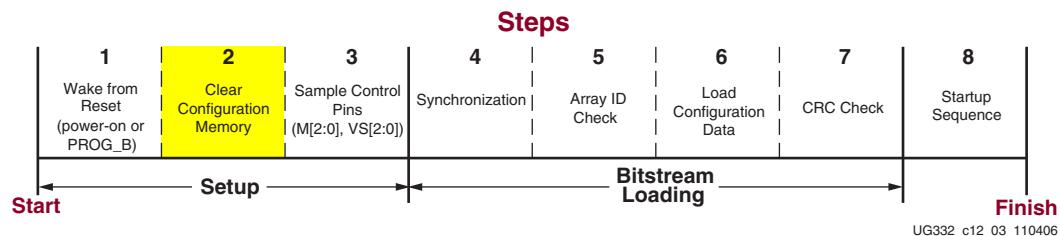

Figure 12-5: Clear Configuration Memory (Initialization)
2. Hold the INIT\\_B pin Low during initialization, which stalls the configuration process in Step 2 shown in Figure 12-5, page 245. However, after the FPGA releases INIT\\_B High, the application cannot subsequently delay configuration by pulling INIT\\_B Low.